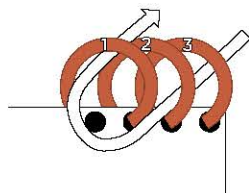

FIG. 2
4. Thread 1 open (green) jump ring through starter jump rings 3 and 2, moving right to left from behind the starter tool. Then thread the jump ring through starter jump ring 1, moving left to right from the front of the starter tool, as marked in FIG. 2. You will use a TE connection between jump rings 3 and 2, and an AE connection between jump rings 2 and 1 (page 22).